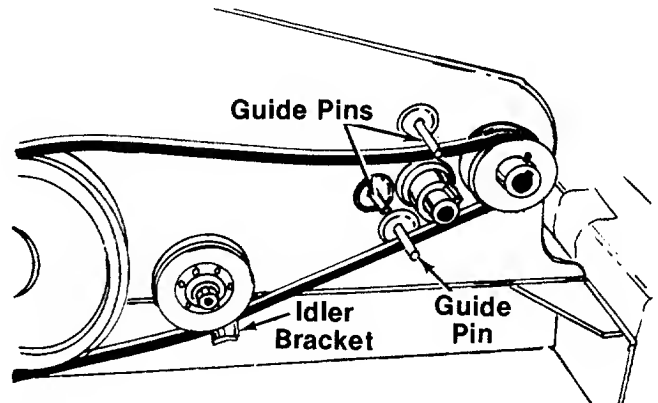

FIGURE 27.
6. Remove the belt and install the new belt. Be sure the belt is routed around the guide pins as shown in figure 27.
Belt must be between the "V"-idler pulley and the idler bracket. See figure 27.